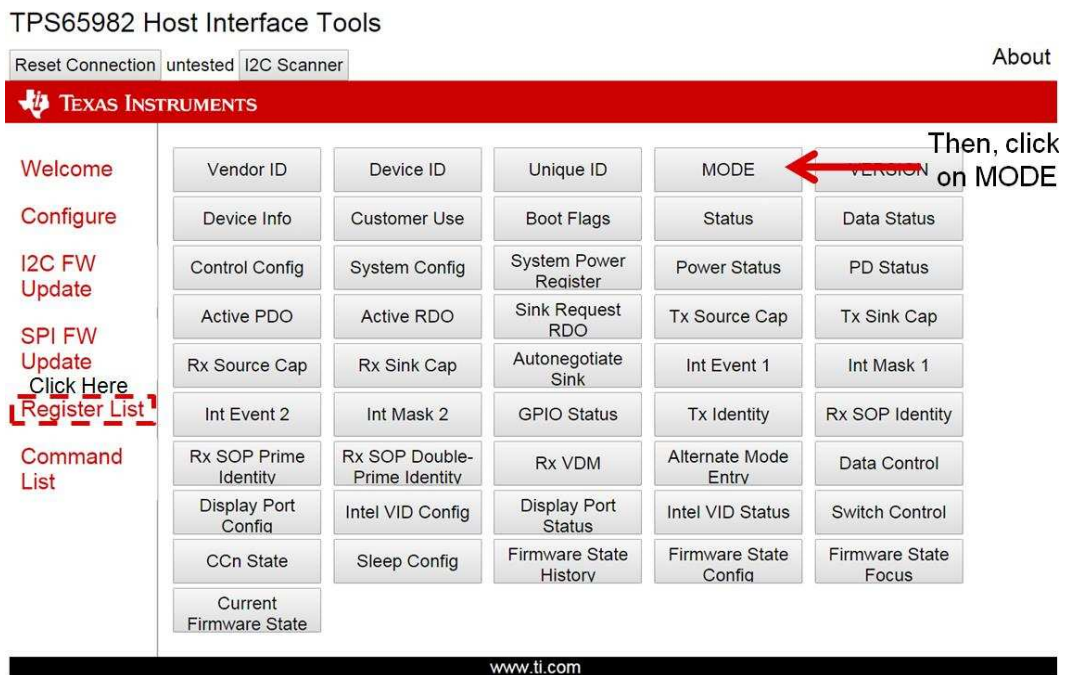

Figure 16. Register List
Step 10. On the TPS6598x Utilities GUI, click the *Register List* link on the left side of the GUI and then click the *MODE* button (see Figure 16). This register will check the I²C communication and verify that the firmware was loaded on the EVM.